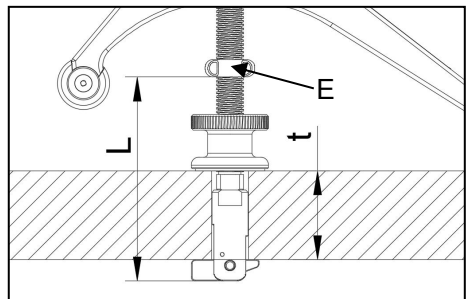

Fig.5
2. Loosen the two set screws on the **Stop Block (E)** and set distance (**L**) between the Stop Block (E) and the bottom of the arch hold down as shown in Fig. 5.